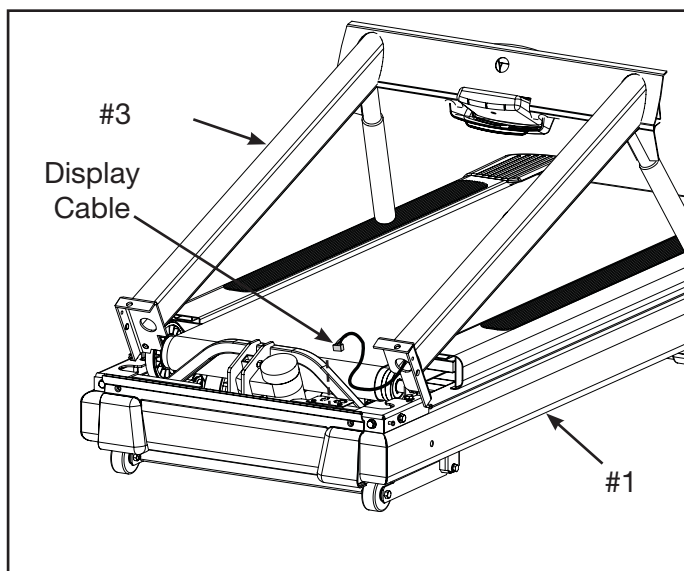

Figure 3
- B.** Carefully place the upright assembly (#3) on the base assembly (#1) as shown. See Figure 3.
- C.** Plug the display cable, located at the bottom of the upright assembly (#3) into the base assembly (#1). See Figure 3.